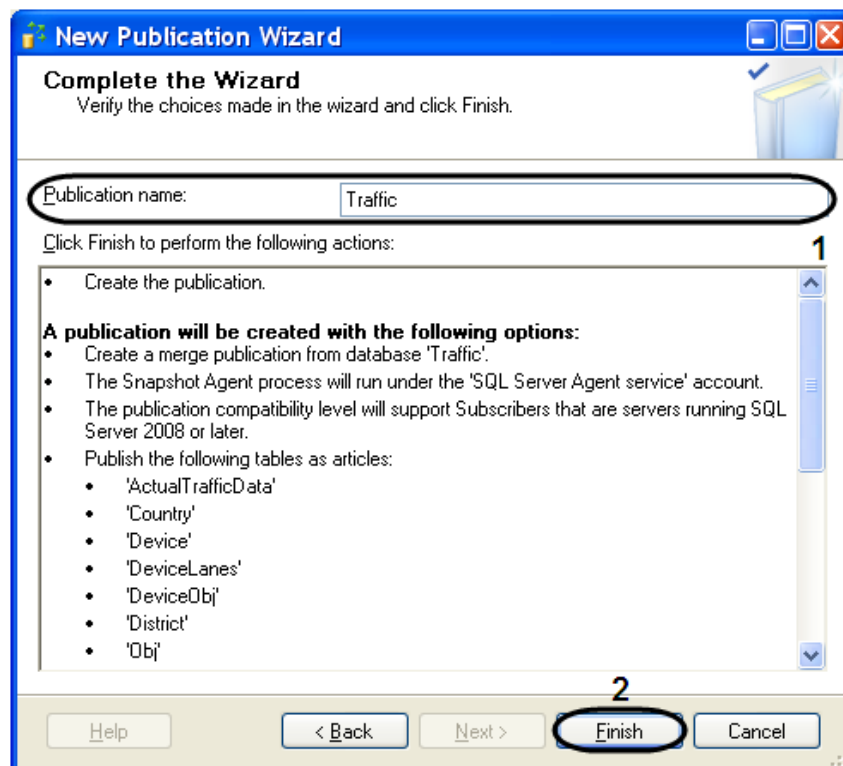

Fig. 9.3—10 Publication name and description
10.16. In the «Creating Publication» opened window there will be displayed the process of tasks performance while creating a new publication (Fig. 9.3—11).